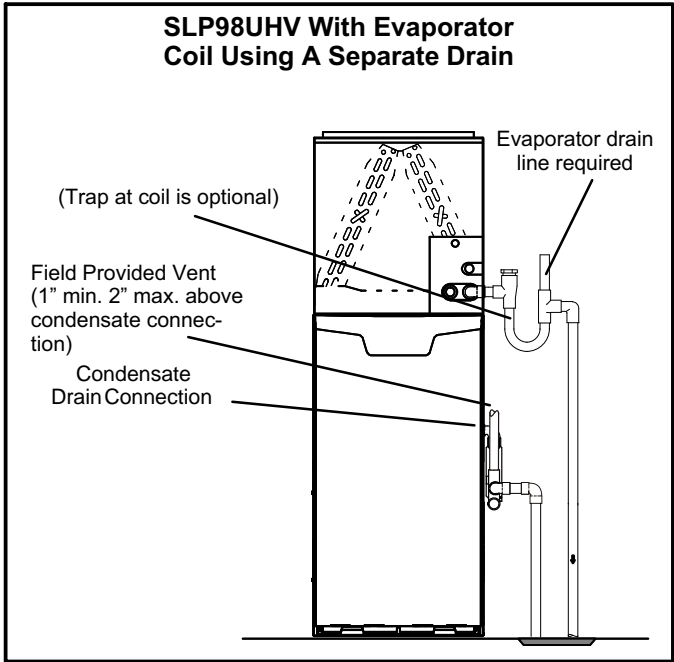
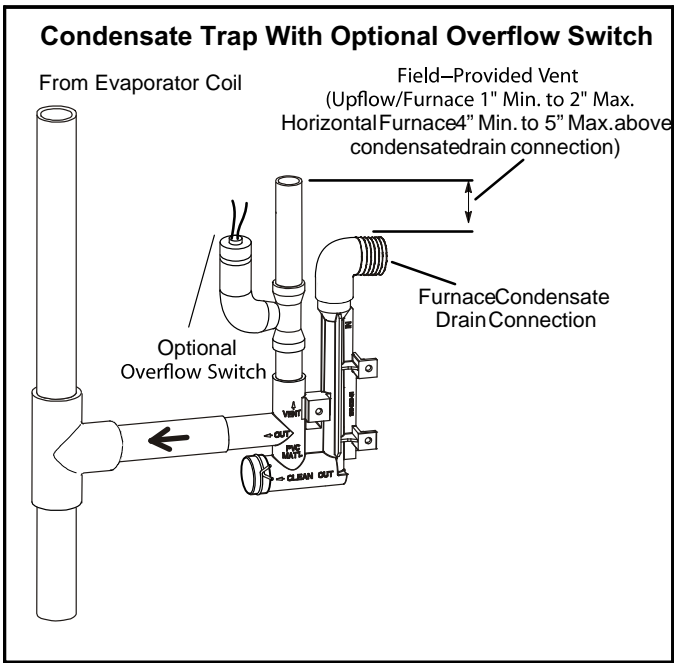

FIGURE 34
FIGURE 35
- 5 - Figures 34 and 36 show the furnace and evaporator coil using a separate drain. If necessary the condensate line from the furnace and evaporator coil can drain together. See figures 35, 37 and 38.